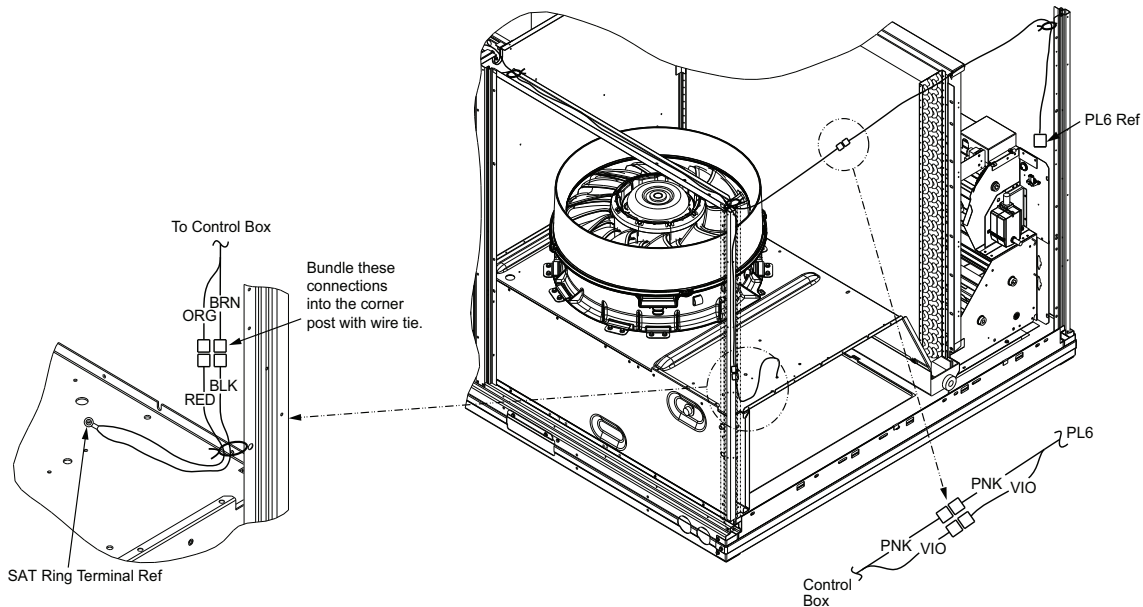

Fig. 19 — Supply Air Sensor Installation POL 224 (Vane Axial Fan System)
33. Route the 4 wires through the divider between the control box and the indoor blower section. (See Fig. 19.)